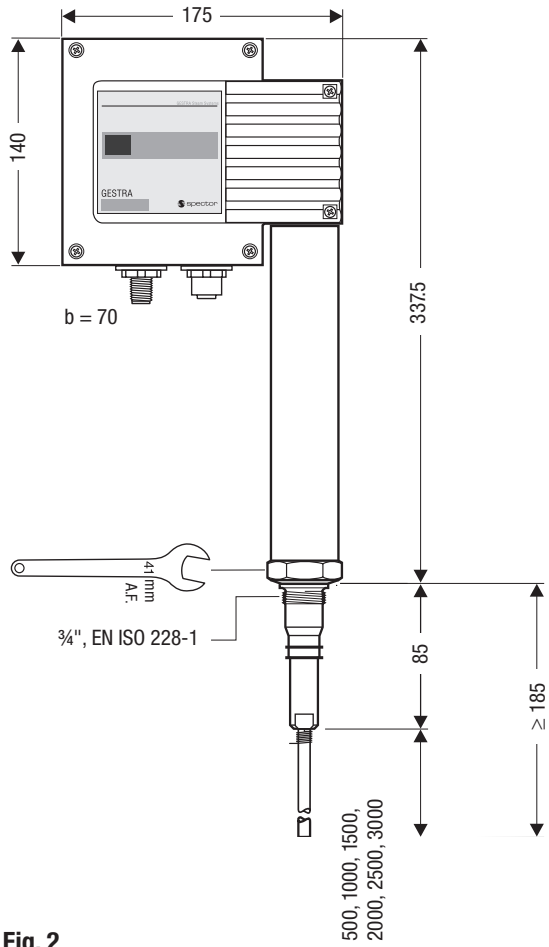

Fig. 2
Screwed $\frac{3}{4}$ " , EN ISO 228-1. **Fig. 2**
2. Carefully determine required measuring length of electrode. Observe min. length, Fig. 2, Fig. 3.
3. Mark length of electrode tip ④.
4. Unscrew electrode tip ④ from measuring electrode ① and cut tip.
5. After visual inspection screw electrode tip ④ into measuring electrode ①. Slide spring ③ along electrode tip ④, so that its bent end completely enters into small bore ②.